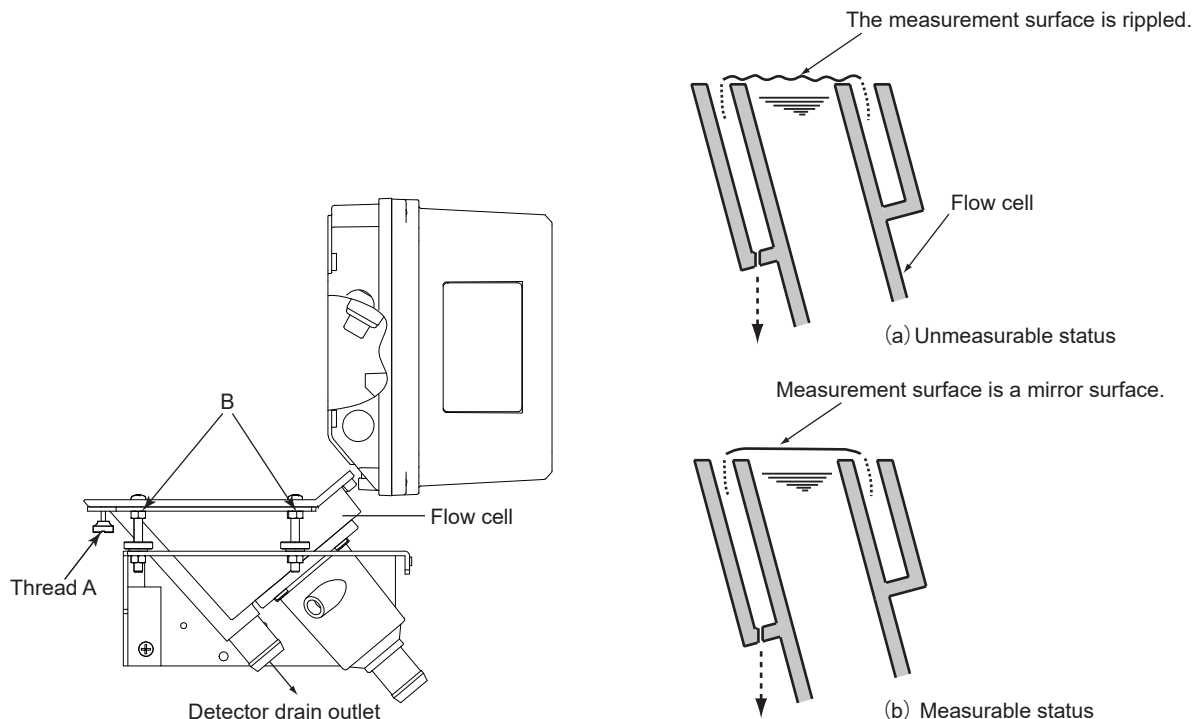
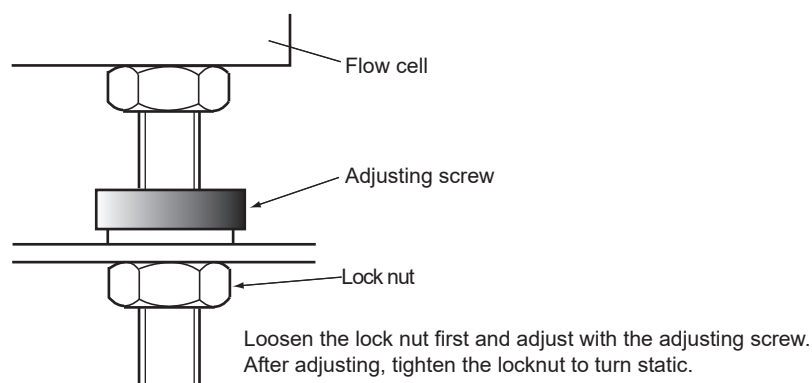

Figure 66
Figure 67
1. Models with a sampling system, it is factory-adjusted, so there is usually no need for leveling. When adjusting without a sampling system or with a sampling system, place a level on the Flow cell with no water flowing, and adjust at B (4 locations) shown in Figure 66 (A) so that the level shows horizontal at two points at right angles (see Figure 67). If there is no level gauge, it can be adjusted visually. In this case, adjust so that water overflows almost uniformly from the Flow cell (see Figure 66 (B)-(b)).
2. After leveling, measure the volume of water drained from the detector drain port (see Figure 66 (A)) using a graduated cylinder, etc., and confirm that the volume is within $1.5 \text{ L} \pm 0.1 \text{ L}$ per minute. If the flow rate is large, adjust it again in the direction of raising the Flow cell. If it is small, adjust it again in the direction of lowering the Flow cell using B (4 positions) shown in Figure 66 (A).
Enlarged view of B shown in Figure 66 (A)